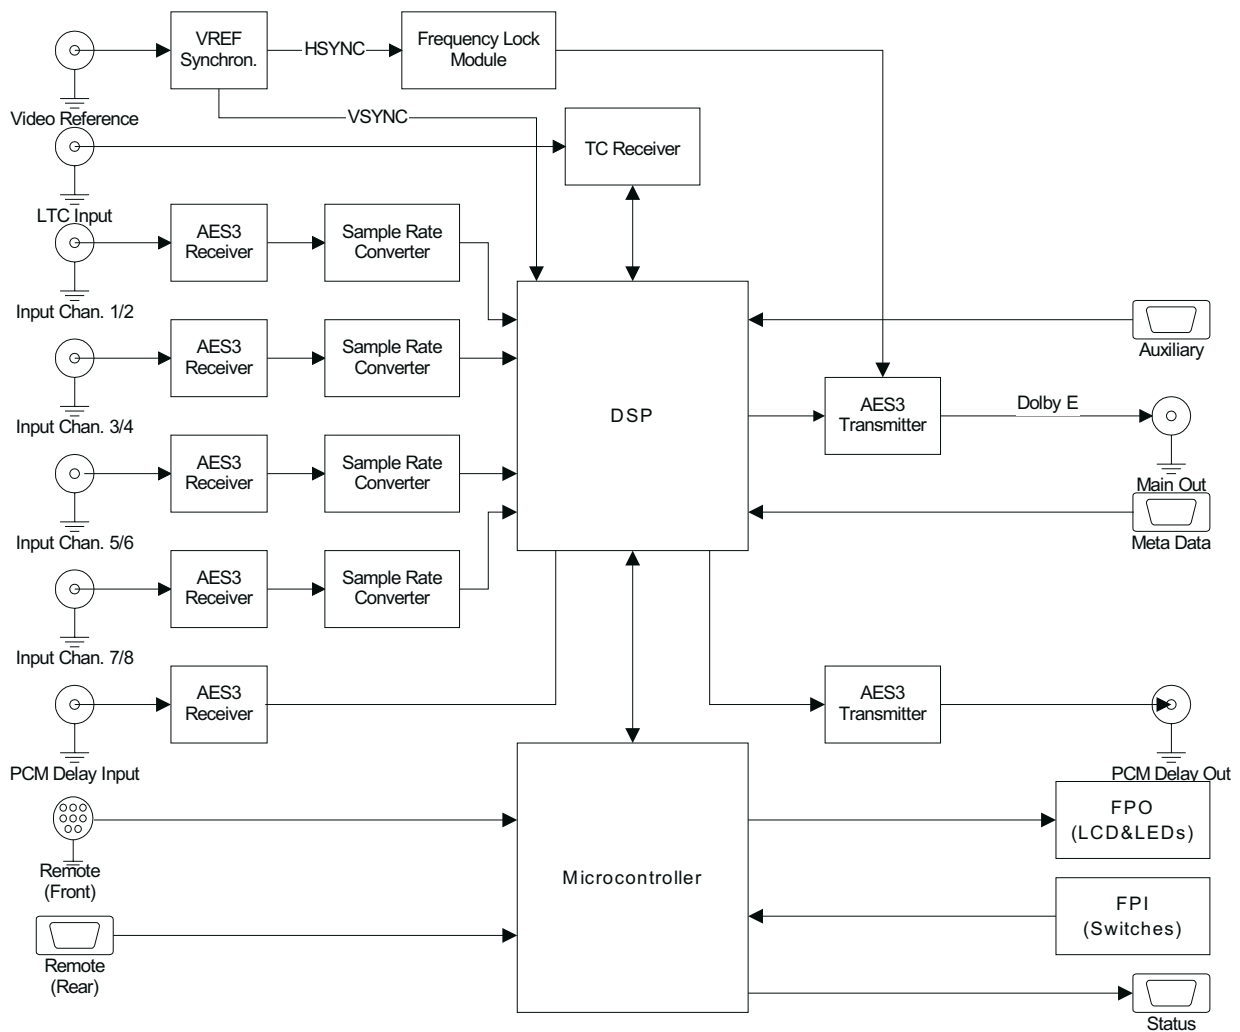

Figure 3-1 DP571 Block Diagram
- Figure 3-1 – block diagram of the DP571